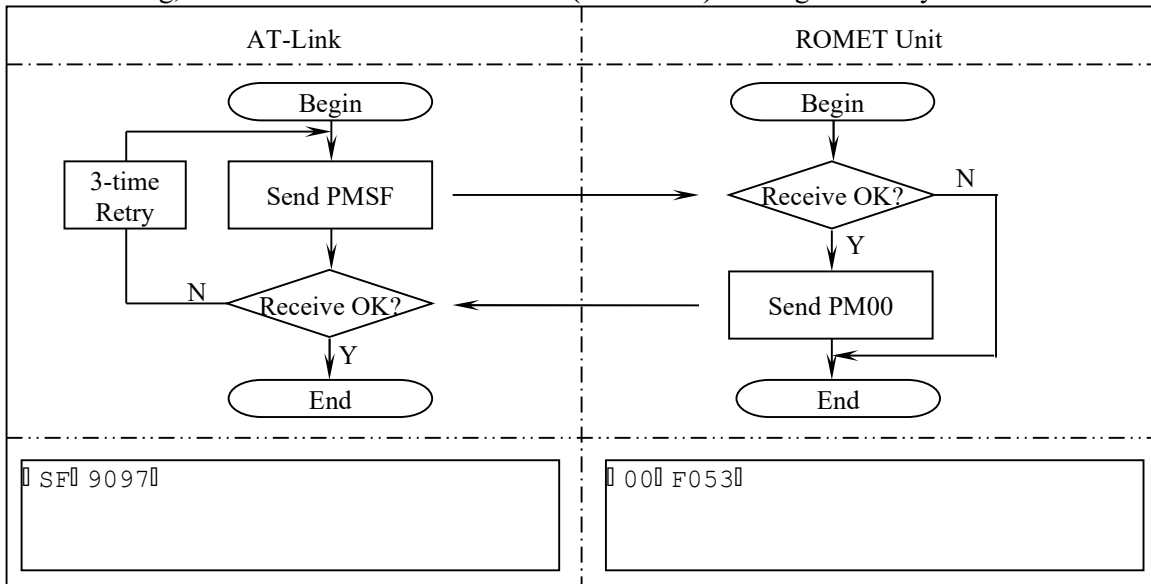

Figure 7-2. Link Disconnecting Flow Chart
7.2 Link Disconnecting (Figure 7-2)